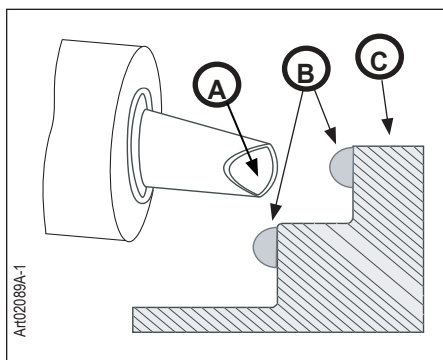
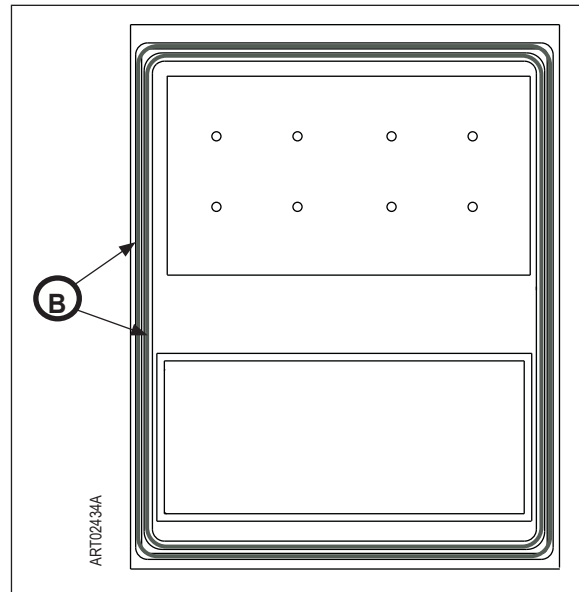

Fig. 11a - Mastic application on refrigerator cabinet
Fig. 11b - Mastic application on refrigerator cabinet
1. To apply correct bead size that results in a complete seal, open mastic tube by placing cut in nozzle 3/4 inch from tube and cut at 45 degree angle (Fig. 11a,A).
2. Apply bead of mastic in horizontal direction 1/2 inch wide and 3/8 inch thick completely around the opening in two (2) places (Fig. 11a,B) and (Fig. 11b,B).